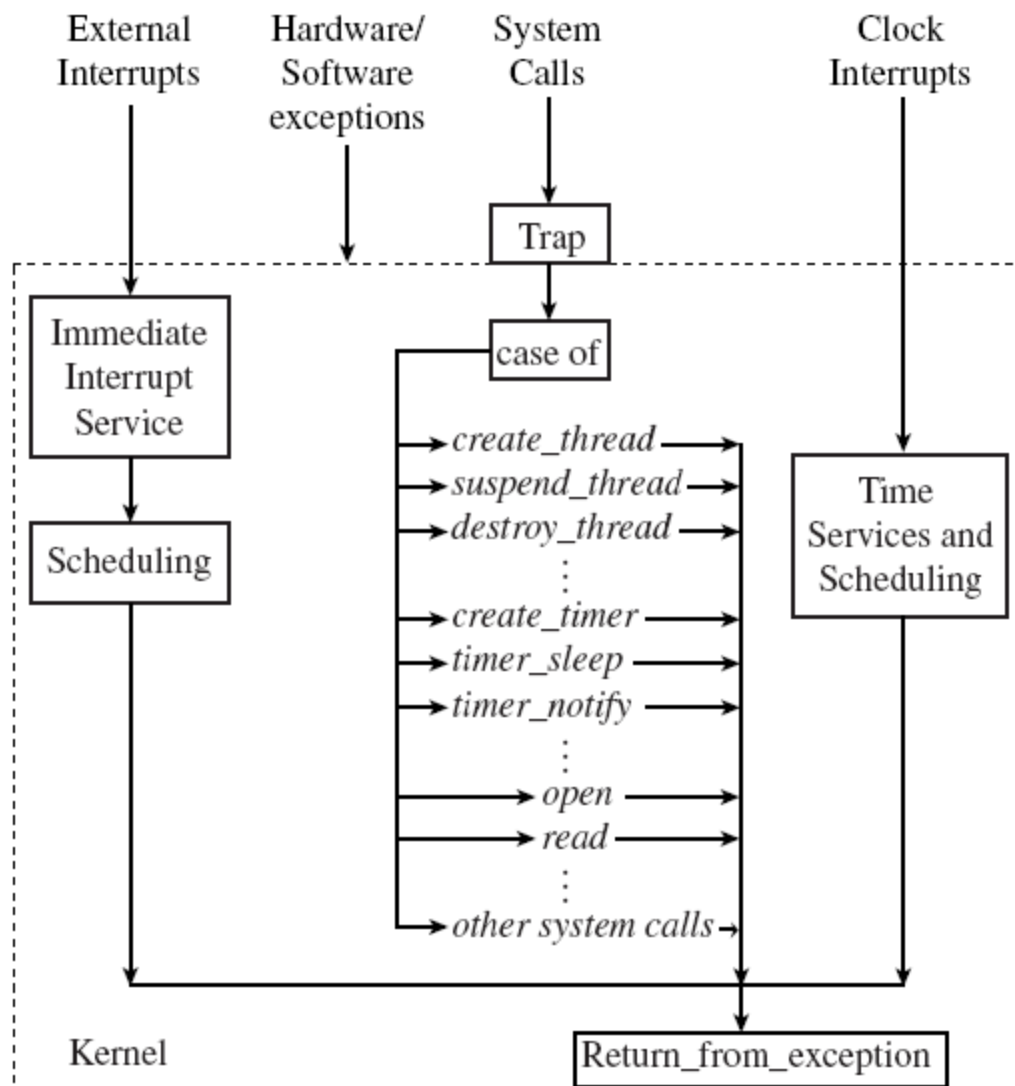

Figure 4.2 Structure of a microkernel.4.1.3. A Basic Model of a Real-Time System
- Again, with a few exceptions, a real-time operating system consists of a microkernel that provides the basic operating system functions described below. Figure 4.2 shows a general structure of a microkernel.
- In such a system, a system call is just like a procedure or function call within the application. Figure 4.2 shows examples of thread management functions: create thread, suspend thread, resume thread and destroy thread.